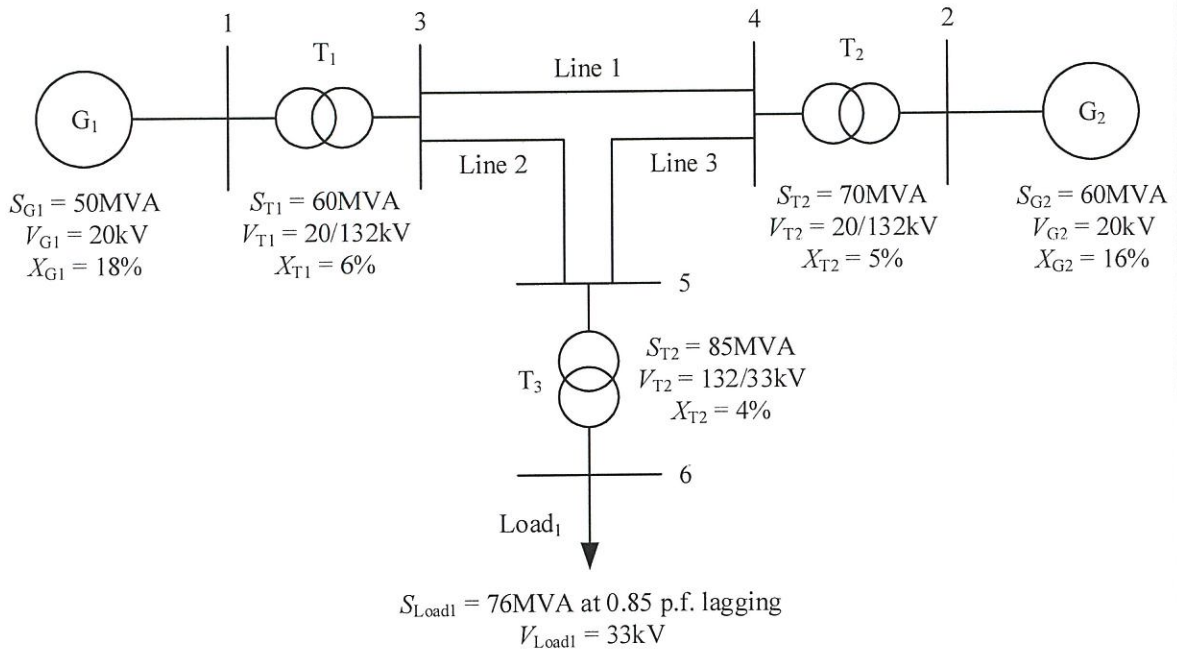

Figure Q1(b)
- Q1** (a) State **THREE (3)** types of source of energy in power system operation. (3 marks)
- (b) **Figure Q1(b)** shows a single line diagram of a typical power system model. Line 1, Line 2, and Line 3 have reactances of 56.3Ω , 43.2Ω , and 51.6Ω , respectively. Calculate the per-unit (pu) impedance of all components available in the system using a common based of 100MVA and 20kV on the generator G_1 side. (17 marks)